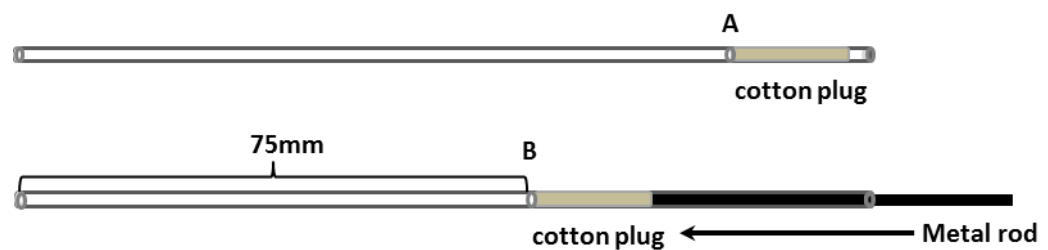

Figure 2.
2. To prepare the straws, push the cotton/polyvinyl alcohol plug down the straw, from position A to position B, using a metal rod with a stop (Figure 2).